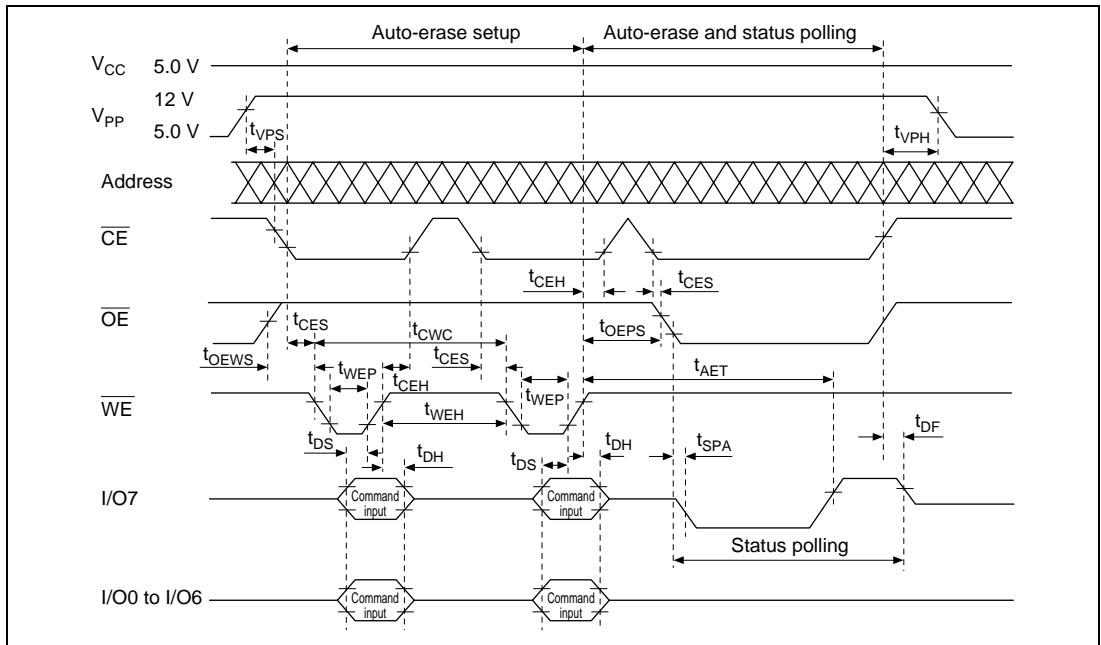

Figure 19-20 Auto-Erase Timing
**High-Speed, High-Reliability Erasing:** The H8/539F flash memory uses a high-speed, high-reliability erasing procedure. This procedure provides enhanced erasing speed without subjecting the device to voltage stress and without sacrificing data reliability . Figure 19-20 shows the basic high-speed, high-reliability erasing flowchart. Tables 19-17 and 19-18 list the electrical characteristics during programming.